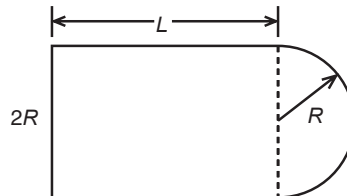

Figure P20
20. A fenced enclosure consists of a rectangle of length L and width $2R$, and a semicircle of radius R , as shown in Figure P20. The enclosure is to be built to have an area A of 1600 ft^2 . The cost of the fence is $\$40/\text{ft}$ for the curved portion and $\$30/\text{ft}$ for the straight sides. Use the `min` function to determine with a resolution of 0.01 ft the values of R and L required to minimize the total cost of the fence. Also compute the minimum cost.